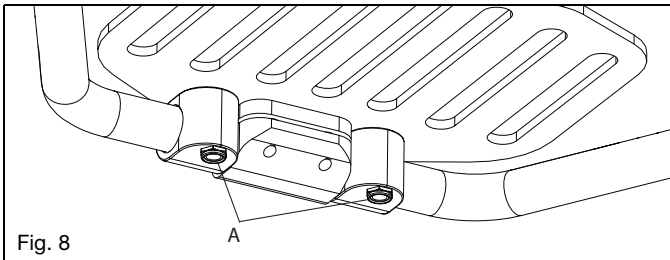

Fig. 8
1. Use a 4mm Allen wrench to loosen the two screws (Fig. 8:A) that secure the footplate to the footplate clamp. Do not remove the screws from the footplate. Once loose, the footplate will easily rotate around the footrest extension tube.
2. Select the desired position and retighten the two M6 screws (Fig. 8:A) to 80 in./lbs (9.04 N\*m).